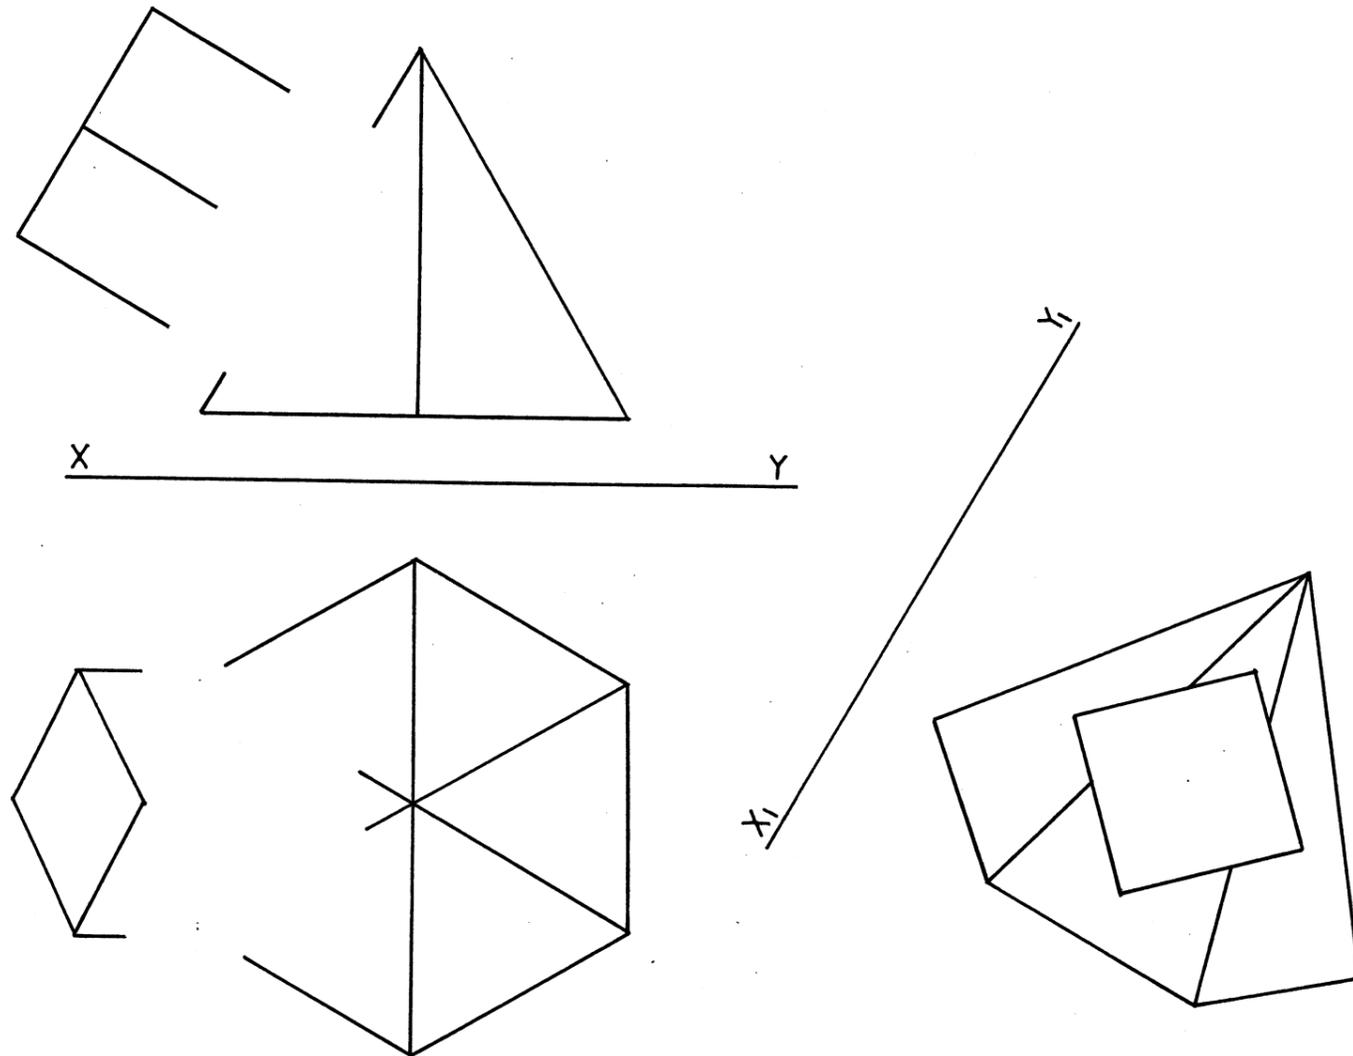

FIG. 5
**Figure 5** shows the incomplete front and top views as well as the auxiliary view of a square prism penetrating a hexagonal pyramid.